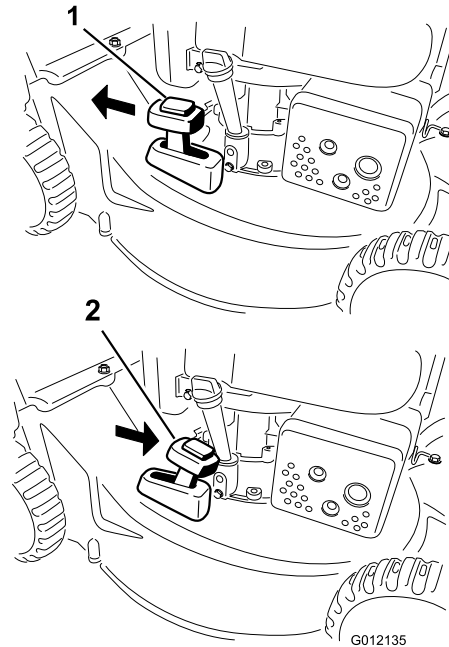

Figure 16
To recycle the clippings, move the bag-on-demand lever to the recycling mode (Figure 16).
2. Install the grass bag; refer to Removing the Grass Bag \(page 11\) and move the bag-on-demand lever to the **bagging** mode (model 20836 only) as shown in Figure 16.
**Note:** If the grass bag is on the machine, remove it before rear-discharging the clippings; refer to Removing the Grass Bag \(page 11\). The bag-on-demand lever should be in the **bagging** mode (model 20836 only) as shown in Figure 16.